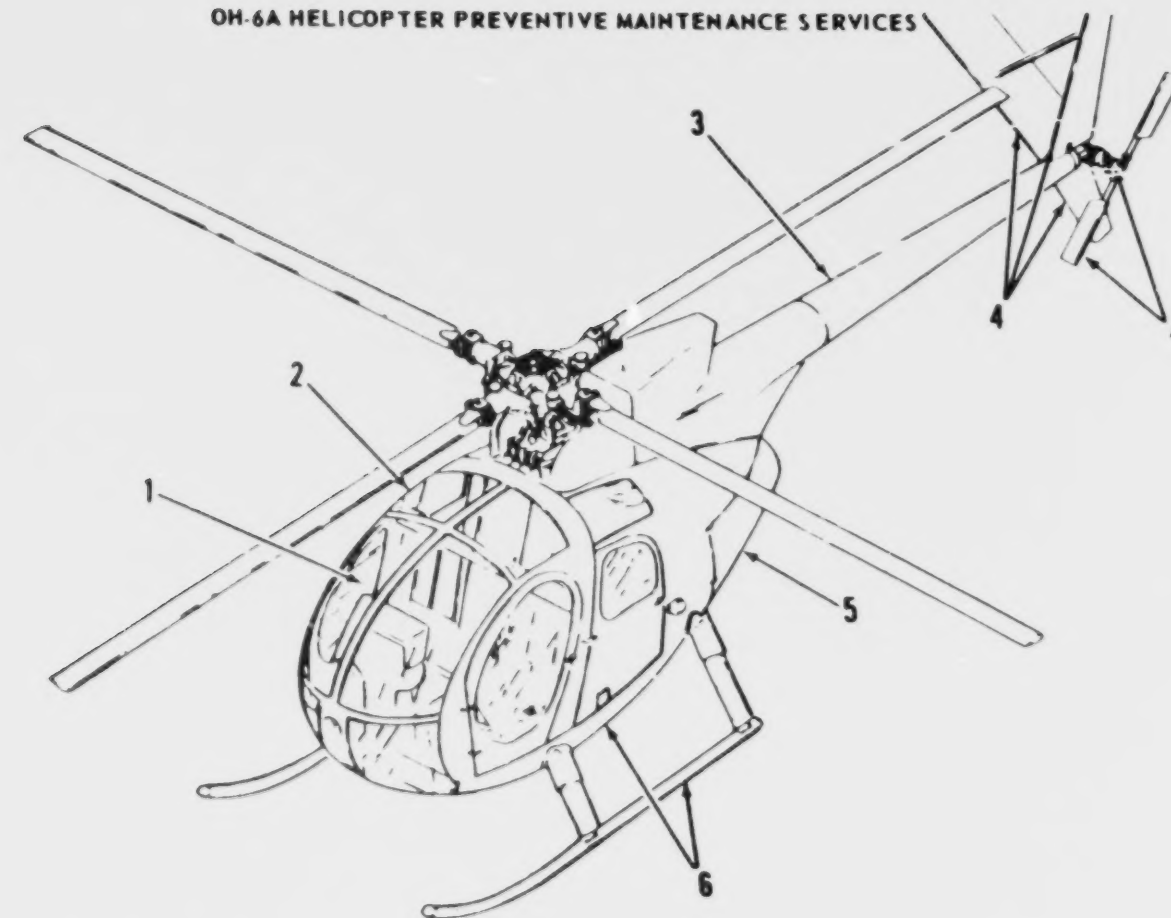

Figure 1. Inspection Areas
6. **Inspection Areas.** Inspection areas are shown in figure 1.